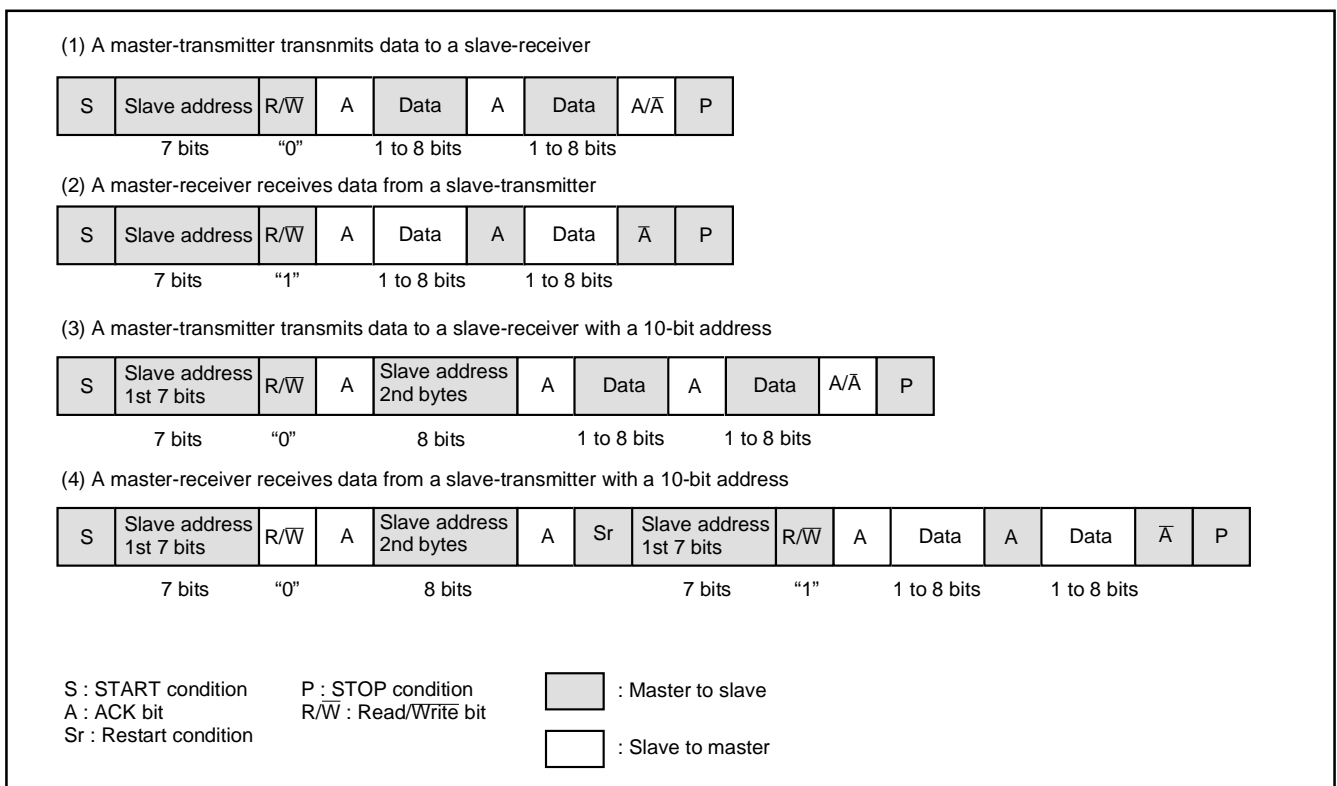

Fig. 39 Address data communication format
To adapt the 7-bit addressing format, set the 10BIT SAD bit of the I2C control register (address 002E16) to "0." The first 7-bit address data transmitted from the master is compared with the high-order 7-bit slave address stored in the I2C address register (address 002C16). At the time of this comparison, address comparison of the RWB bit of the I2C address register (address 002C16) is not performed. For the data transmission format when the 7-bit addressing format is selected, refer to Figure 39, (1) and (2).
When the first-byte address data agree with the slave address, the AAS bit of the I2C status register (address 002D16) is set to "1." After the second-byte address data is stored into the I2C data shift register (address 002B16), perform an address comparison between the second-byte data and the slave address by software. When the address data of the 2 bytes agree with the slave address, set the RWB bit of the I2C address register (address 002C16) to "1" by software. This processing can make the 7-bit slave address and  $R/\bar{W}$  data agree, which are received after a RESTART condition is detected, with the value of the I2C address register (address 002C16). For the data transmission format when the 10-bit addressing format is selected, refer to Figure 39, (3) and (4).